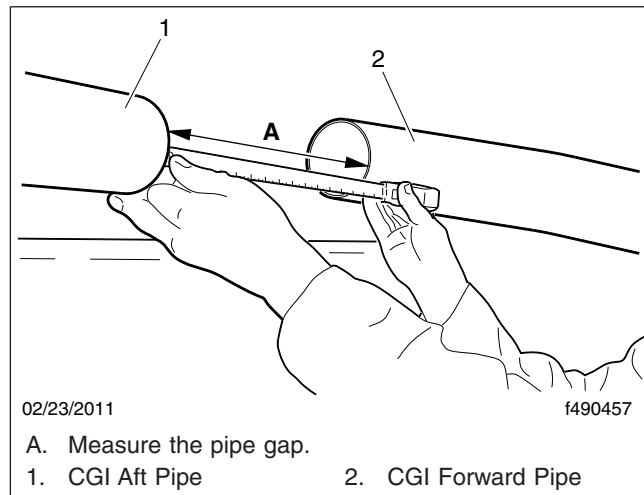

Fig. 10, Measuring the Pipe Gap (typical)
7. Once the pipes are aligned, measure the pipe gap between the CGI pipes and record the distance. See Fig. 10, Ref. A.